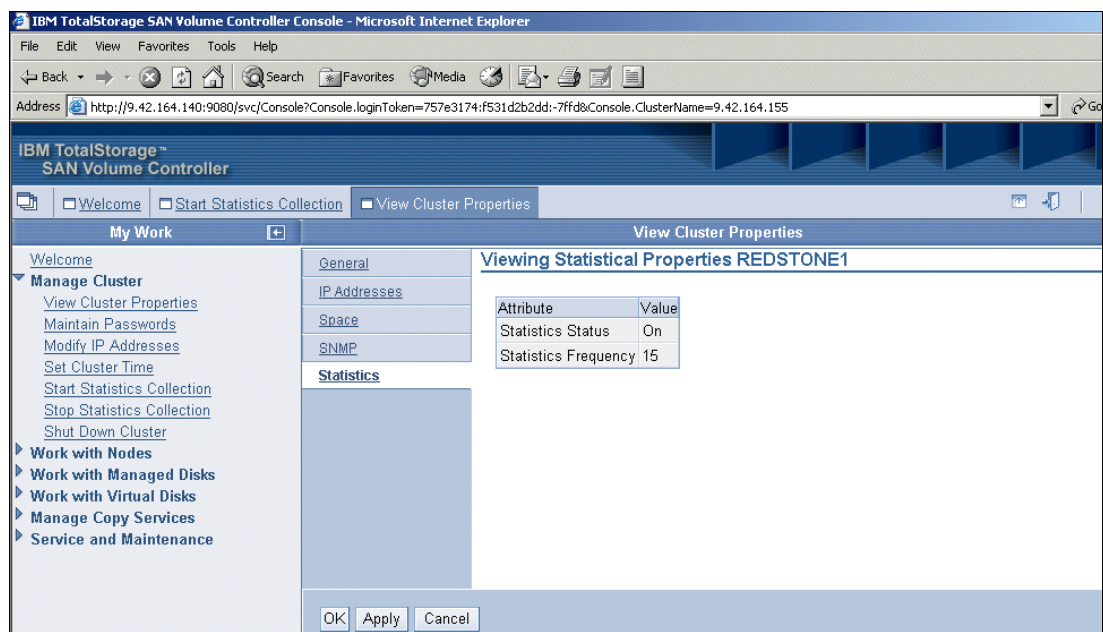

Figure 9-14 Verifying that statistics collection is on
3. Although it does not state the current status and it is not obvious, clicking OK turns on the statistics collection. To verify, click the **Cluster Properties** link as you did in 9.1.3, "Viewing cluster properties" on page 223. Then, click the **Statistics** link. You see the interval as specified in Step 2 and the status of *On* as shown in Figure 9-14.